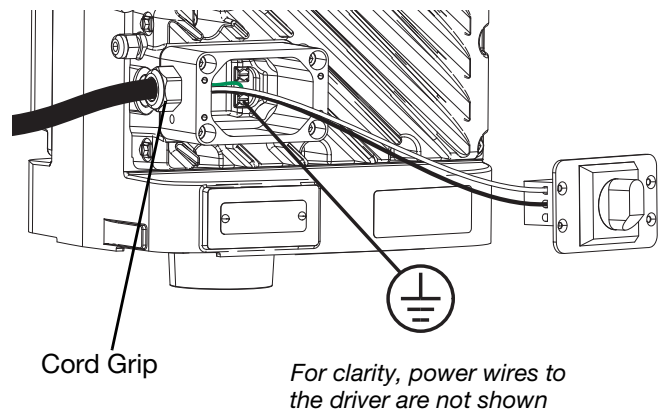

Fig. 6: Connect Power
- Attach the ground wire to one of the two ground terminals inside the junction box as shown in **Fig. 6**.